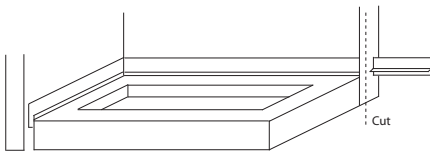

Fig 1.
1. Fit the six hexagon shaped mounting brackets (8 on optional extension pack up to 1700mm) to the shower tray underside with the '30mm' screws supplied (**Fig 1**). Legs must be positioned to give an evenly supported structure, avoiding panel fixing points (section 5) and any existing plumbing.
To fit the Versatile Seal Strip remove backing strips from fixing tape and apply to the tray or bath as shown in (Fig 1).
Check the Versatile Seal Strip fits the shower tray or bath, then mark the excess length and trim with a sharp knife (Fig 1).